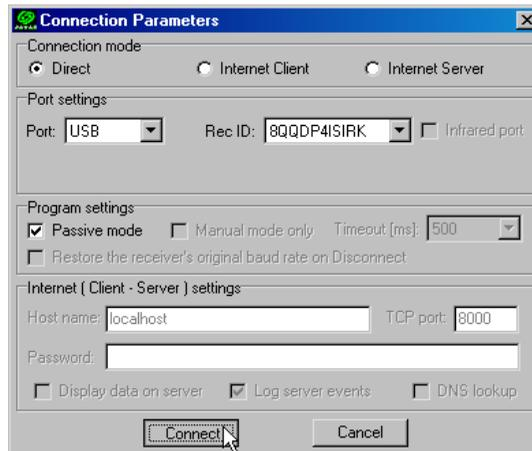

Figure 2-11. USB Connection Parameters
- For USB connections (Figure 2-11)